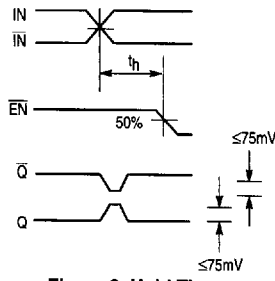

Figure 2. Hold Time
- The hold time is the minimum time that EN must remain asserted after a negative going IN or a positive going IN̄ to prevent an output response greater than ±75 mV to that IN/IN̄ transition (see Figure 2).